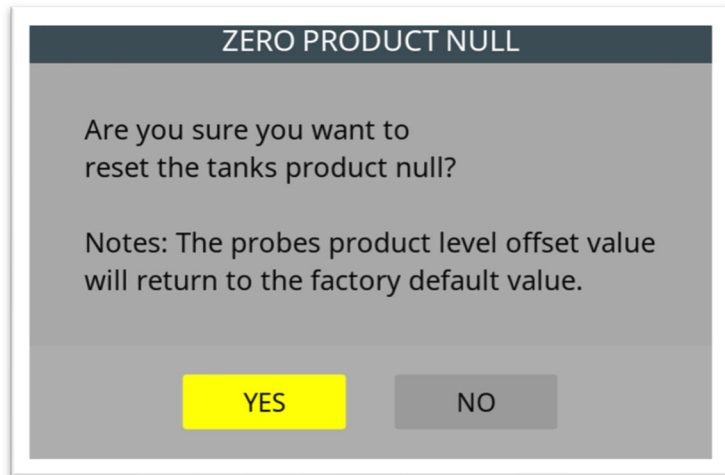

Figure 9.4
- f) **Zero Product Null:** Resets the product null to the factory-default value of 1. You are prompted to press YES or NO. (See Figure 9.4)